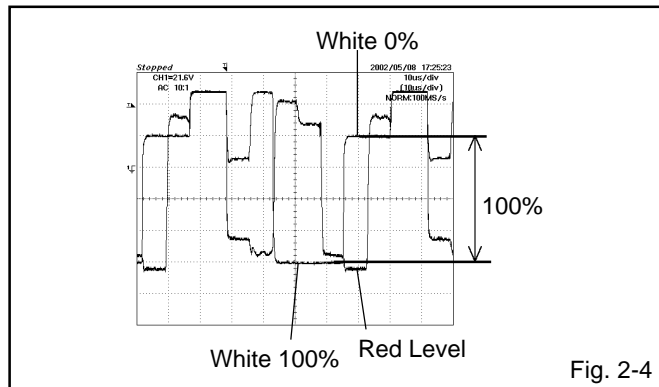

Fig. 2-4
6. Press the RIGHT/LEFT button on the remote control until the red color level is adjusted to $100 \pm 5\%$ of the white level. **(Refer to Fig. 2-4)**
12. Press the RIGHT/LEFT button on the remote control until the red color level is adjusted to $100 \pm 5\%$ of the white level. **(Refer to Fig. 2-4)**